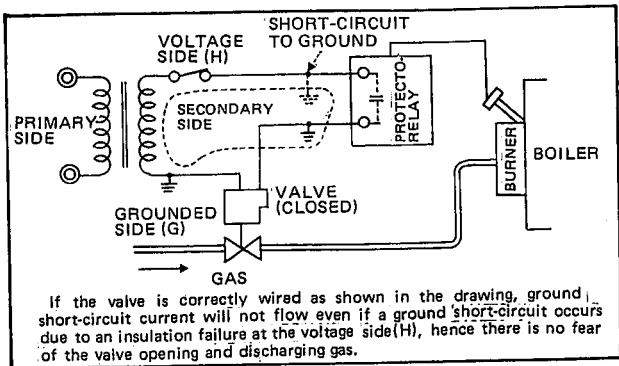

Fig. 4 Connection to power supply and valve (when power supply has voltage side and ground side)
- (2) When the power source has a voltage side (H) and a ground side (G), connect the voltage side to terminal ① and the ground side to terminal ②. Wire the valve while referring to Fig. 4.
- (3) Because the relay is installed using a plug-in method, be careful that the wiring does not interfere with the installation of the relay.
- (4) Check to ensure that there is no incorrect wiring, then plug the relay into the subbase, and tighten the cover retaining screws.